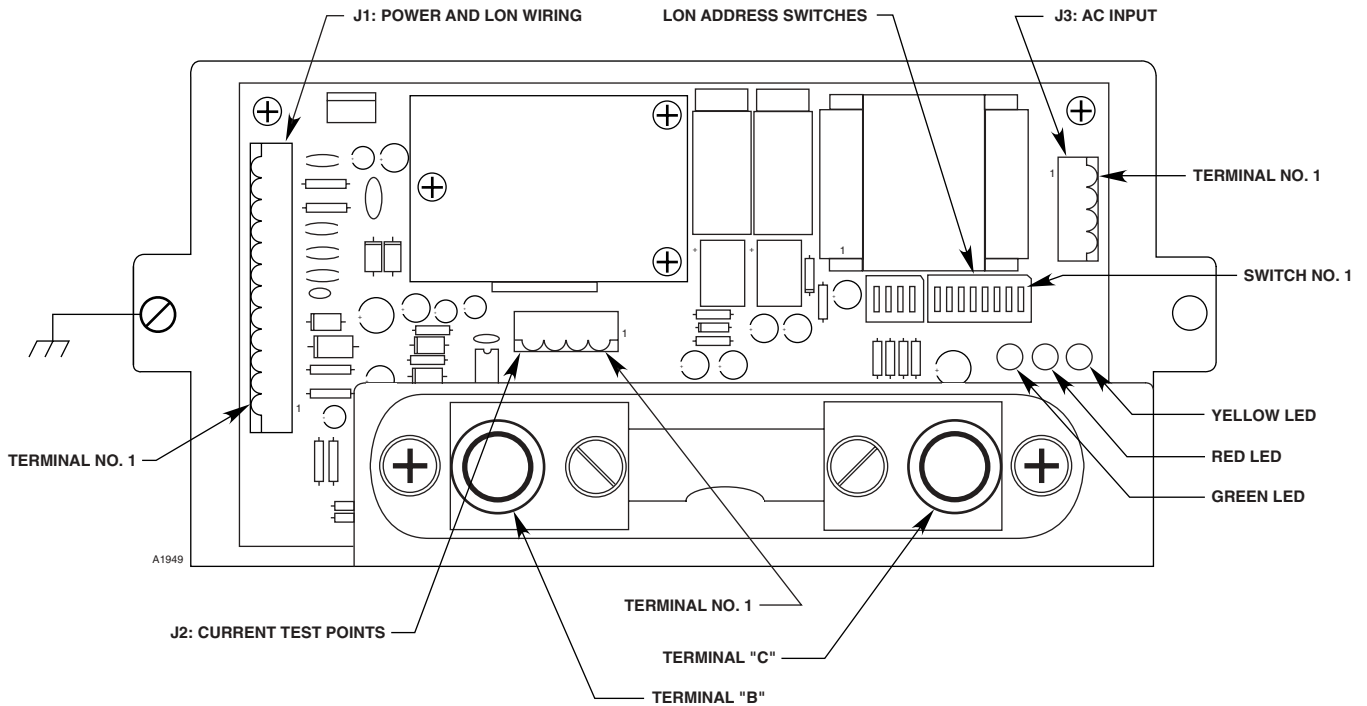

Figure 3-13—Power Supply Monitor Terminal and Switch Location
4. Connect external wiring to the appropriate points on Power Supply. Refer to Figure 3-13 for terminal block locations and Figures 3-14 and 3-15 for terminal identification. Connect the 24 vdc power wires and the LON network cable to the appropriate points on J1. (Redundant "+", "-", and shield terminals are connected internally.) **Do not** ground any shield at the monitor / power distribution cabinet. Insulate the shields to prevent shorting to the device housing or to any other conductor.